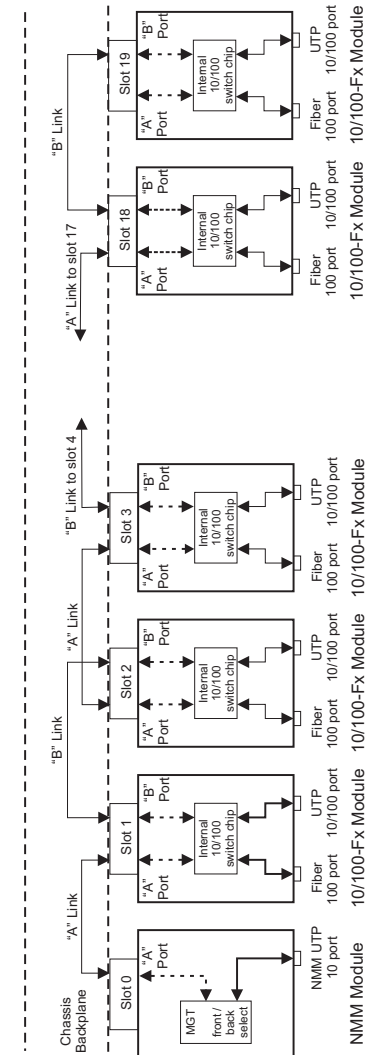

Fig 3. Out-of-Band Managed 10/100Mbps Converter Application
Fig 3. depicts an out-of-band managed 10/100 converter application. In this application which is typical for a Central Office (CO) or a network core, a 19-Module